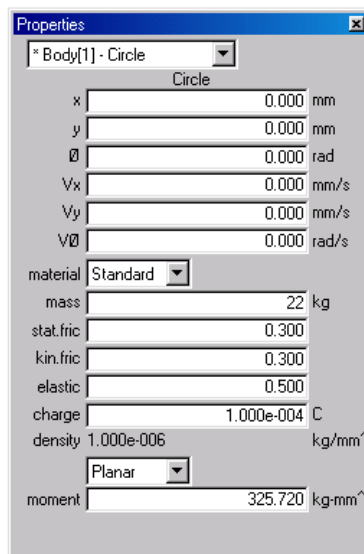

Figure 2
3. Double click on the wheel and get the properties window. Change the mass of the wheel to 22 kg as shown in Figure 2.